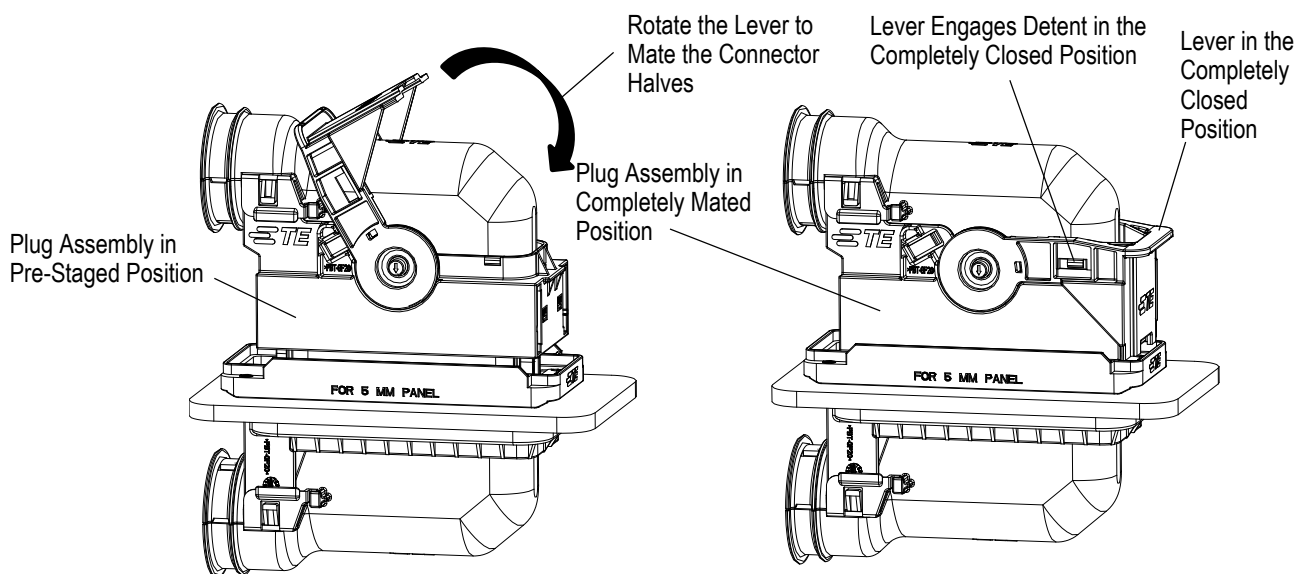

Figure 24
2. Rotate the lever completely till it bottoms out and engages the detents on the plug assembly. An audible “click” can be heard when the lever engages the detents. See Figure 24.